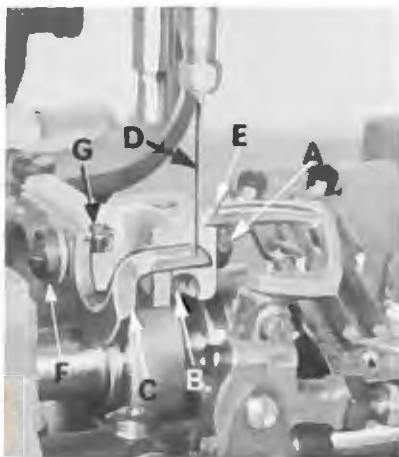

Fig. 9
If feed dog teeth are not parallel with the throat plate, loosen nut (A, Fig. 9) and turn screw (B) clockwise to lower the front teeth, and counterclockwise to raise the front teeth. Retighten nut when feed dog is set properly.
Set the rear needle guard (C, Fig. 9) horizontally so that it does not quite contact the rear of the needle (C) when at its most forward point of travel. A clearance of .005 inch is permissible. It should be set as low as possible, yet have its